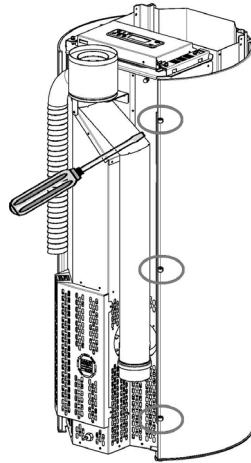

Fig. 73 - Remove screws
- Loosen the rear screws of the sides (see **Fig. 73**).